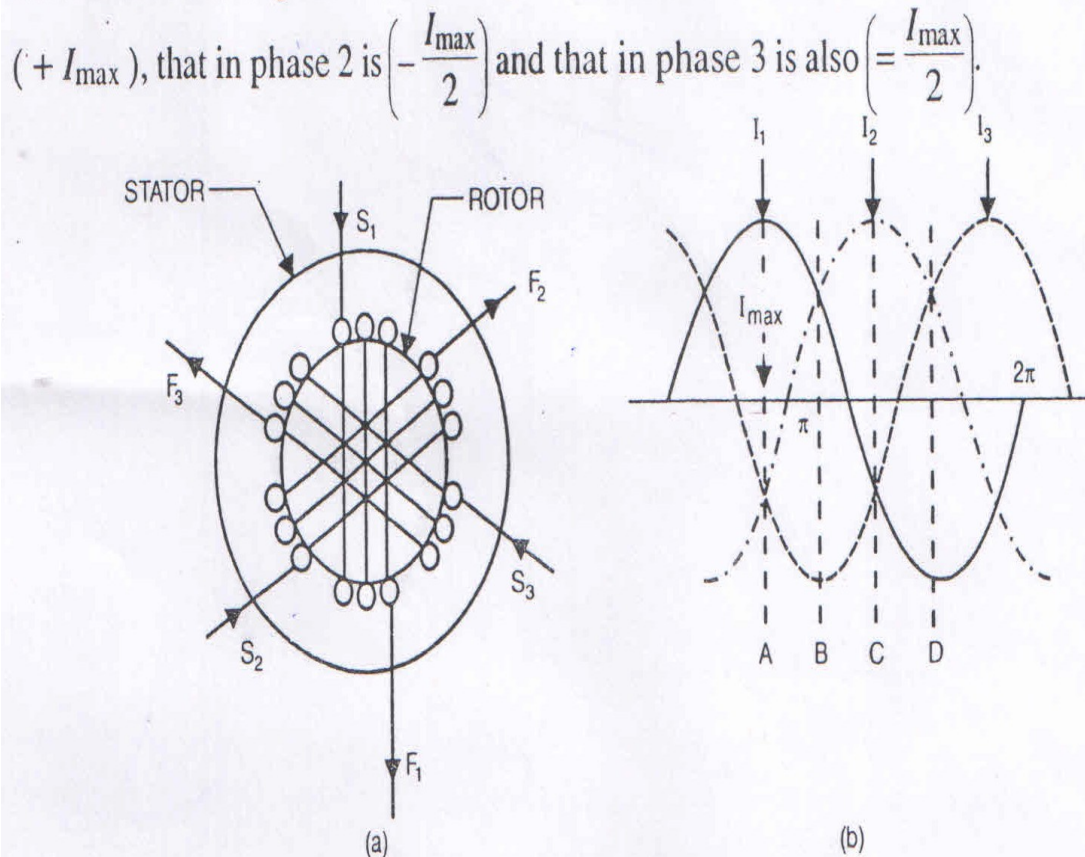

Fig. 11.1.
An induction motor is a device based on rotating field produced when a three phase supply is impressed across a three-phase winding, physically displaced at 120° to each other in space. The diagram in Fig. 11.1 (a) represents in winding of a two-pole, three-phase system. The three windings are spaced 120° apart. These windings may be connected to the three-phase mains either as star (Y) or as delta (Δ). In either case the currents that flow at any instant in the coils are given by the curves as in Fig. 11.1 (b). At any instant A, for example, the current in phase 1 is $(+I_{\max})$, that in phase 2 is $(-\frac{I_{\max}}{2})$ and that in phase 3 is also $(-\frac{I_{\max}}{2})$.